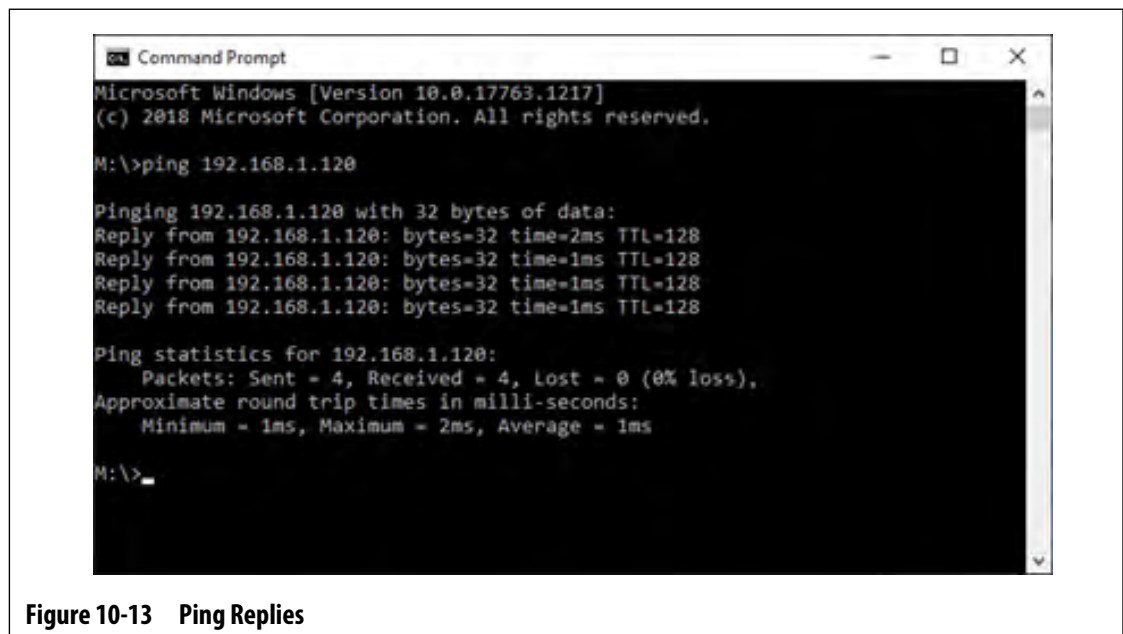

Figure 10-13 Ping Replies
7. Make sure that four replies from the controller are shown on the command prompt window (refer to Figure 10-13).